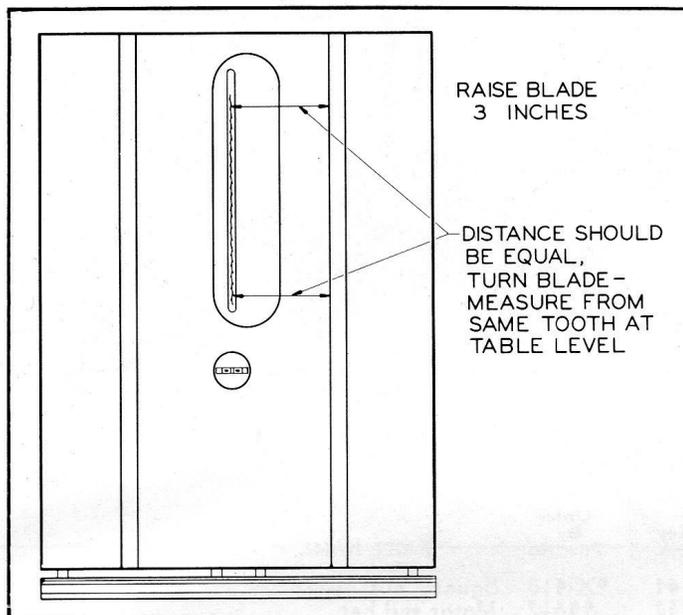

FIGURE 5
2. Measure accurately from the Point of a Tooth to an edge of either Miter Slot, as explained and shown in Fig. 5.